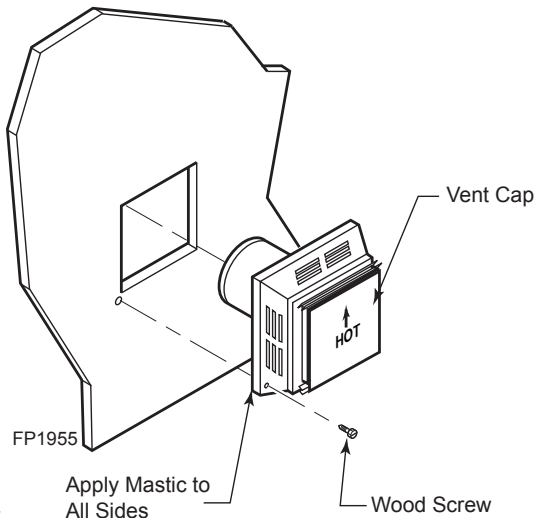

Figure 17 - Install Horizontal Vent Cap
5. Apply a bead of non-hardening mastic around the outside edge of vent cap. Position the vent cap in the center of hole on the exterior wall with the word "UP" on the vent cap facing up. Insure proper clearance of 1" to combustibles is maintained. Attach the vent cap with four wood screws supplied. *Figure 17*
1. Establish vent hole through the wall. Page 16, *Figure 17*.